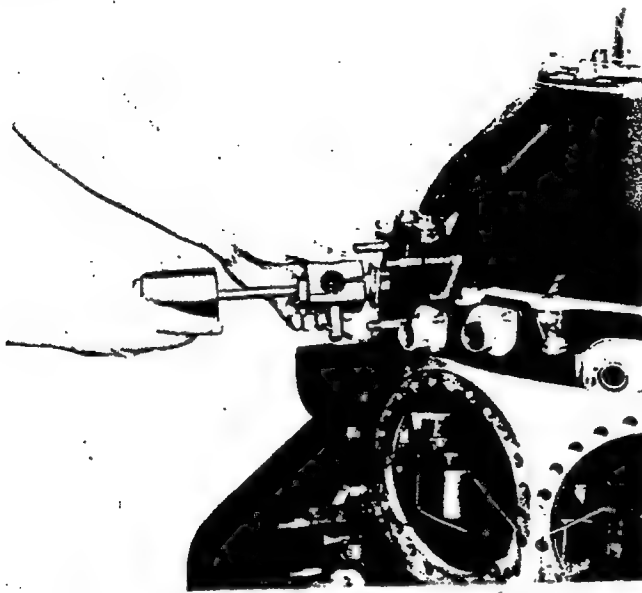

Figure 40—Removing Tight Fitting Valve Tappet Guide
(3) Remove the loose-fitting valve tappet ball socket and mating spring, turning the crankshaft, if necessary, to push the tappet into reach. Remove the palnuts, nuts, and washers from the two tappet guide attaching studs and withdraw the tappet and guide assembly from the crankcase front section. If the guide cannot be removed by hand, attach the tappet guide puller. See figure 40. This consists of a rod which clamps to the bead on the tappet guide. A weight slides along the rod to provide the necessary inertia for removing the guide. Remove the gasket under the guide flange.
(4) The tappet and guide assembly may be separated by inserting the hooked end of the valve tappet circket removing tool under the retaining circket to effect its removal. *Do not attempt to make the circket jump out of its groove by striking the hollow end of*